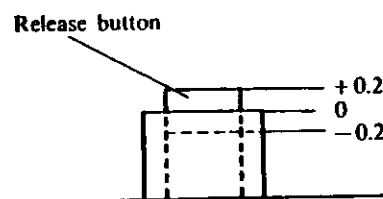

Fig. 14
- 2) The scope of adjustment of the release stroke is indicated in Fig. 14.